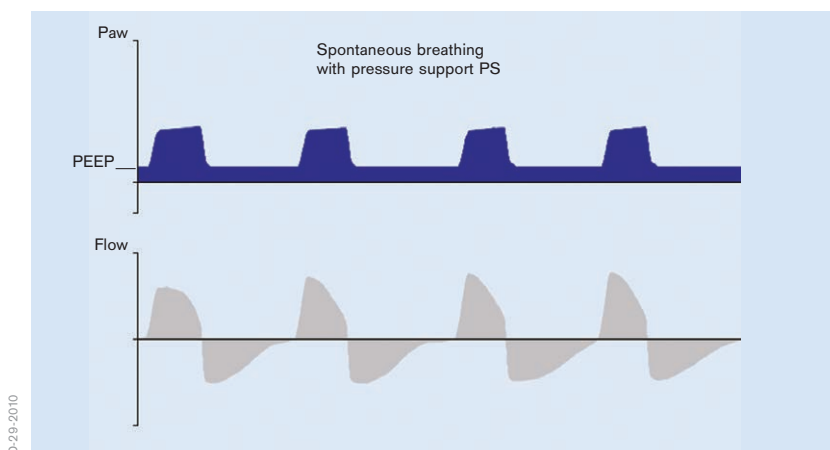

Figure 33: SPN-CPAP/PS
- continuous positive pressure level with or without pressure support (Figure 33)